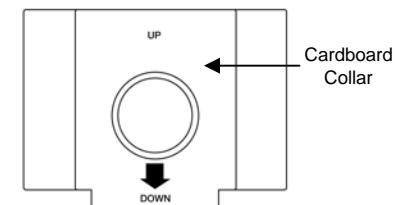
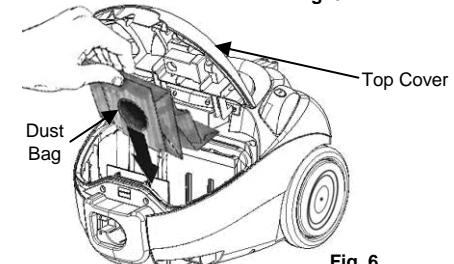

Fig. 5
Fig. 6
- Holding the dust bag in your hand, grasp the cardboard collar. (Fig. 5) You will notice that the cardboard collar has an arrow on it to show you which end must be inserted into the tab located near the intake duct. (Fig. 6)